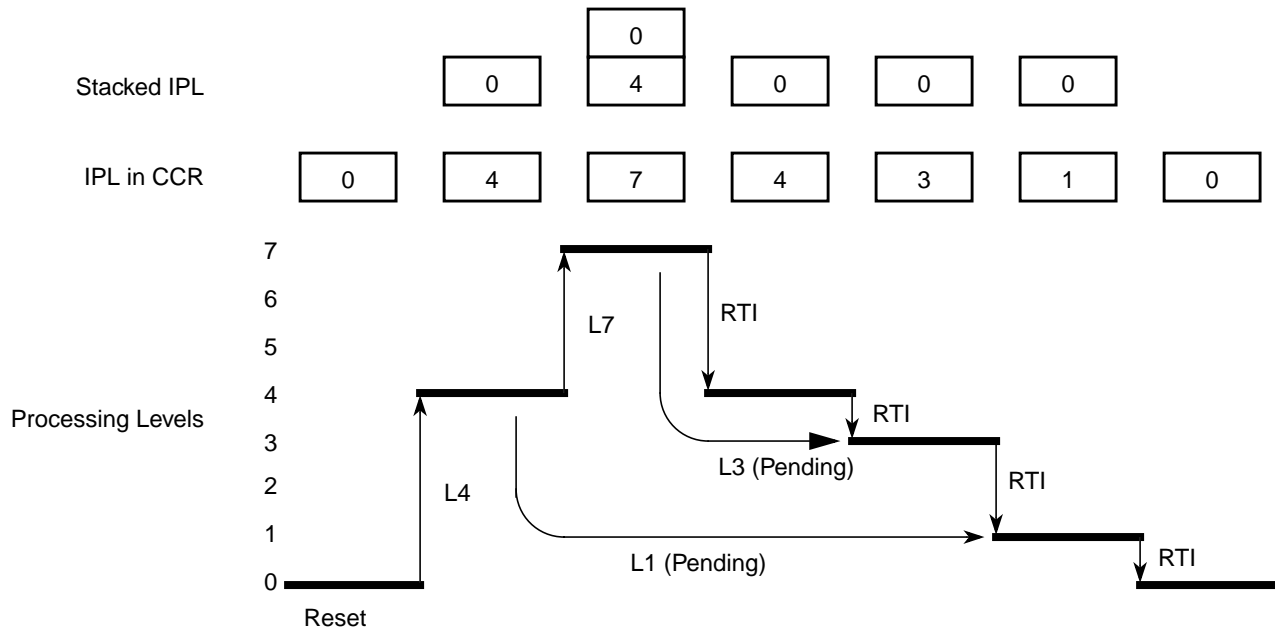

Figure 7-14. Interrupt Processing Example
- I bit maskable interrupt requests can be interrupted by an interrupt request with a higher priority, so that there can be up to seven nested I bit maskable interrupt requests at a time (refer to Figure 7-14 for an example using up to three nested interrupt requests).